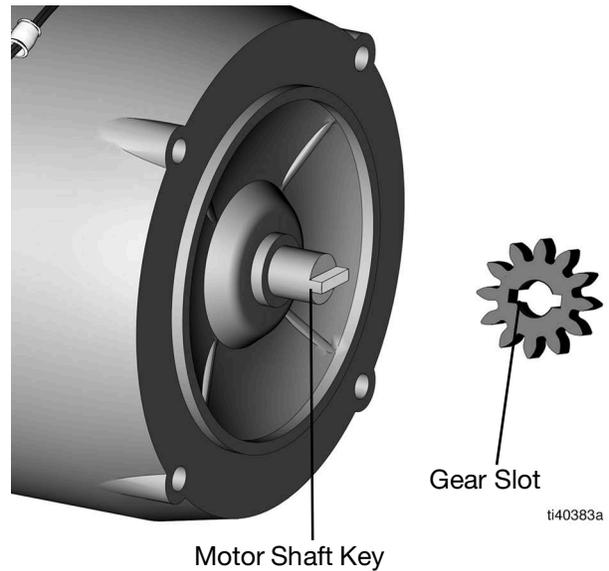
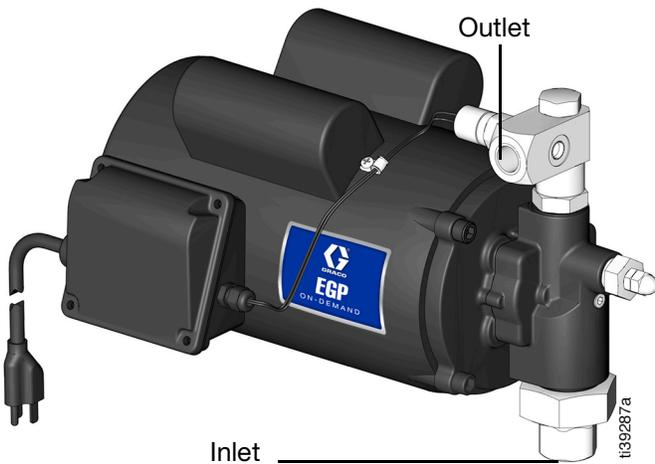

FIG. 31
FIG. 33
5. Put the pump housing assembly onto the motor. The motor shaft key should match the slot on the gear on the inside cover. The pump outlet should face up and the terminal box should be centered between the pump outlet and the pump inlet (FIG. 31 and FIG. 33).